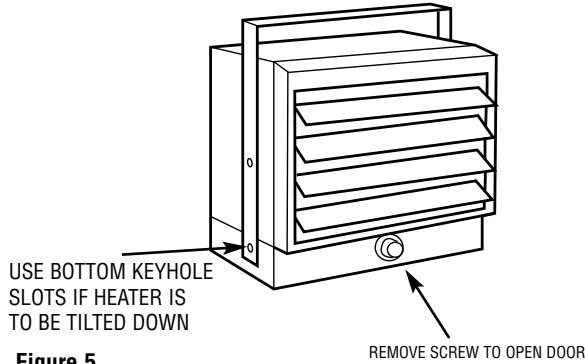

Figure 5
3. Lift the heater up and into the mounting bracket. Align the screws on each side of the heater with the keyhole slots in the mounting brackets. If the heater is to be tilted, it must be positioned in the lower keyhole slots (see Figure 5). Tighten the bracket screws so the unit is securely suspended at the desired position.
1. To connect the power to the heater, simply remove the screw from the front of the unit. This allows the hinged bottom to open, providing access to the electrical wiring and connectors. (See Figure 5)